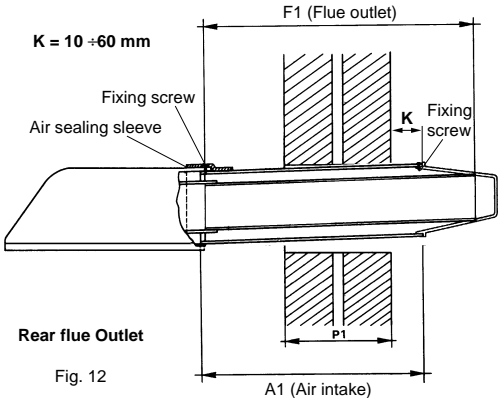

Fig. 12
##### 4.1 Rear Flue Outlet (fig. 12)
- 6.1.7 Check the terminal relationship with the wall as shown in fig. 12.